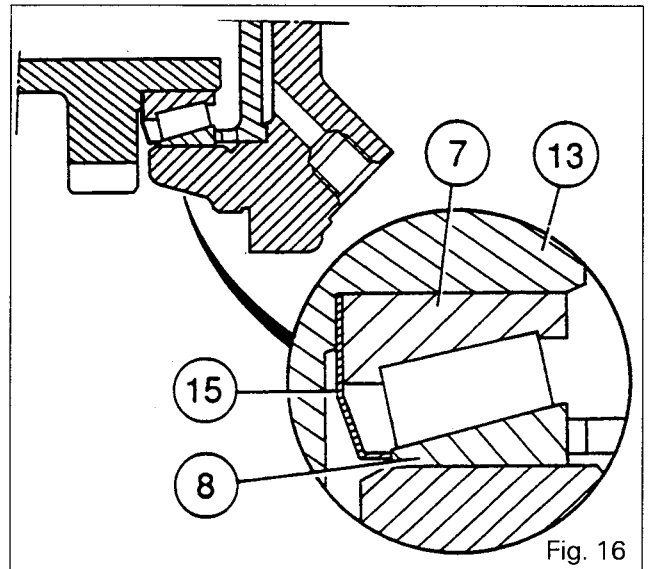

Fig. 16
Note : To obtain correct lubrication of the friction ring (30), a deflector (15) (mounted between the pinion (13) and the bearing cone (7) in contact with the cup (8) (Fig. 16).